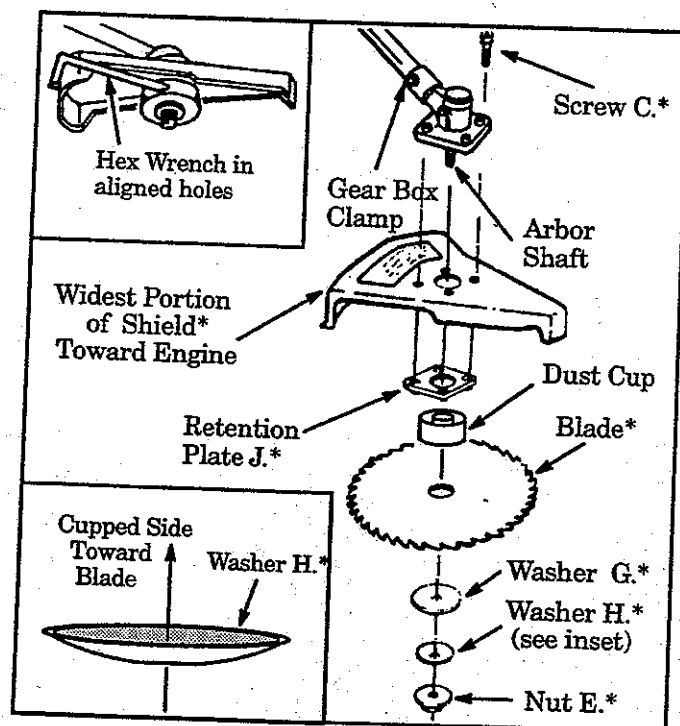

Figure 6
Failure to install the shield in the position shown in Figures 6 and 7 can result in serious injury to the operator. The length of the shield must be aligned with the length of the tube. Direct widest part of the shield toward the engine.
- Position the retention plate on the underside of the metal shield and align screw holes. Make sure the flat side of the plate is against the metal shield. Figure 6.
- Hold the retention plate in position and place the metal shield under the gear box. Align screw holes. Figure 6.
- h. Install blade over arbor shaft, making sure the hole in the center of the blade is fitted around the raised center on the dust cup. Figure 6.
NOTE: When installing blade, make sure teeth on blade are oriented as shown in Figure 6.
- i. Install the large flat washer "G.", cupped washer "H.", and nut "E." as shown in Figure 6. Be sure cupped washer "H." is installed as shown in Figure 6 (inset).
- k. Insert the large hex wrench (provided) into the aligned holes. Figure 6 (inset, upper left).